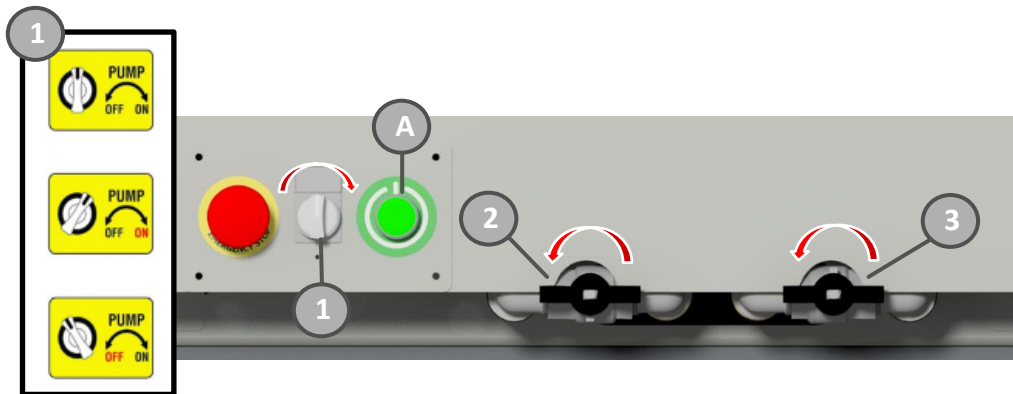
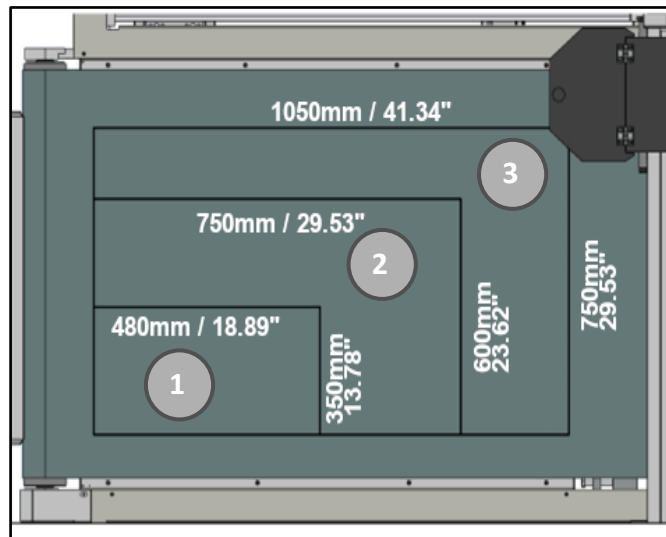

Figure 4-2
Figure 4-3
Turning the pump switch (1) Figure 4-2 clockwise will start the vacuum pump. Turning the switch counterclockwise stops the pump motor.
The suction of zone 1 Figure 4-3 is always open and will be activated by the software when necessary for processing.
The two valves (2,3) Figure 4-2, if open, will ensure that when the software activates suction it is extended to the corresponding sectors of the table Figure 4-3.
- Insert the power by pressing the Machine Power key (A), Figure 4-2.